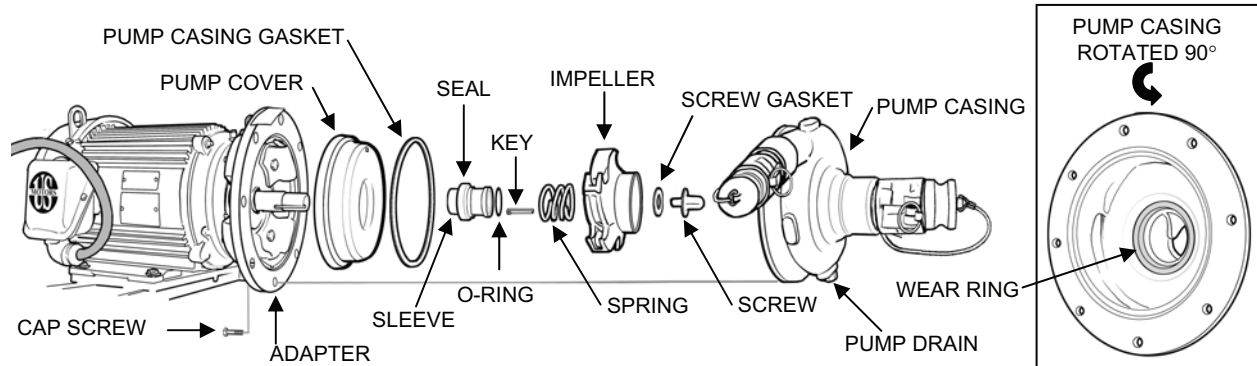

Figure 13. MF Feed Pump Removal.
1. Remove the MF Feed Pump P-3 from the adapter as follows (see Figure 13).